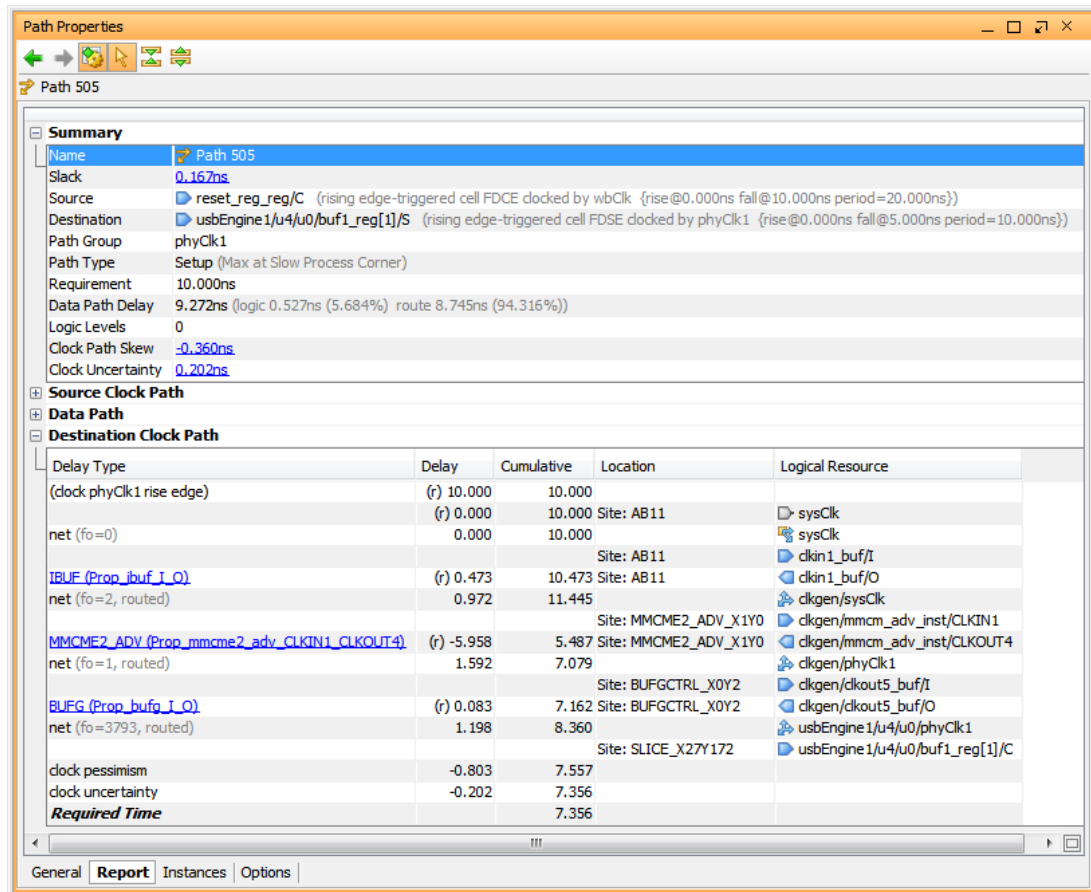

Figure 32: Path Properties window
12. Select the Path Properties window, and **Maximize**, or **Float**, the window for the selected path, and examine the information provided as shown in Figure 32.